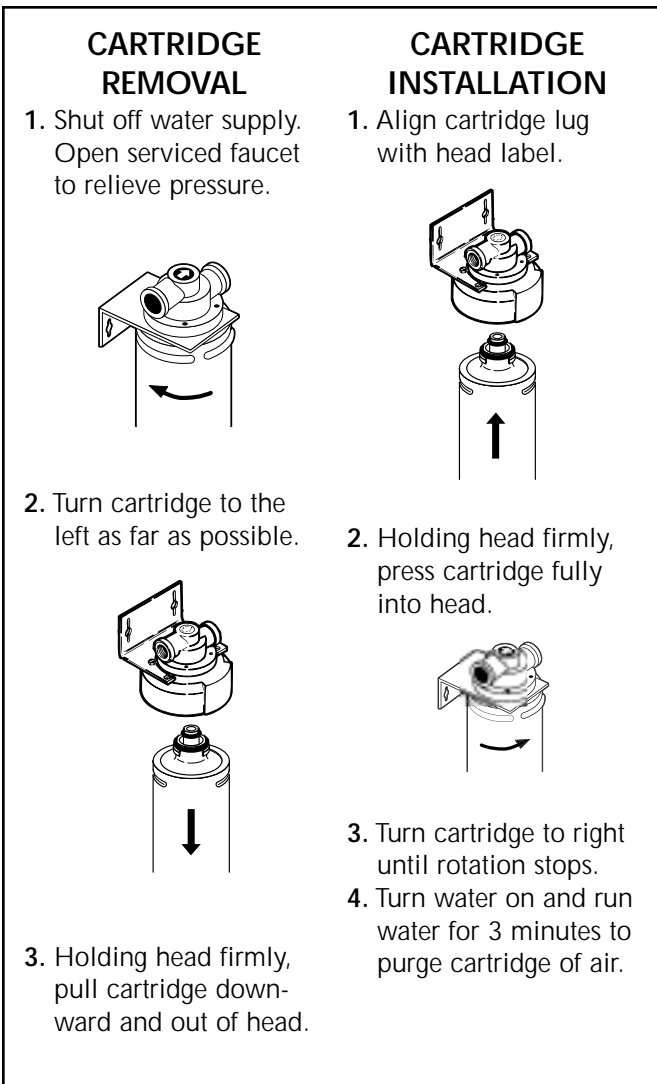

Figure 3
9. Install the filter cartridge as detailed in Figure 3.
These drinking water systems must be maintained according to the manufacturer's instructions, including timely replacement of filter cartridges. Follow the guidelines below to determine when the filter cartridge must be replaced in each system. Refer to Figure 3 for the service sequence.